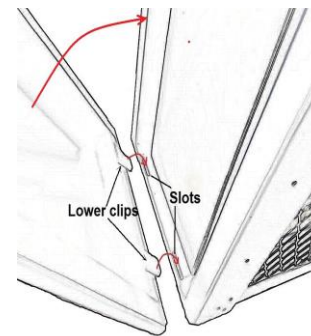
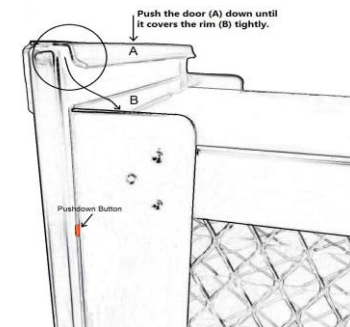

Fig. 4
Fig. 5
- Close the door (Fig. 4 and Fig. 5).
Next, insert the lower clips (Fig.4) of the door into the slots at the bottom, then move the hook (A in Fig. 5) at the upper end over the rim (B in Fig. 5) of the cabinet, and push it down till the rim gets all the way into the hook.